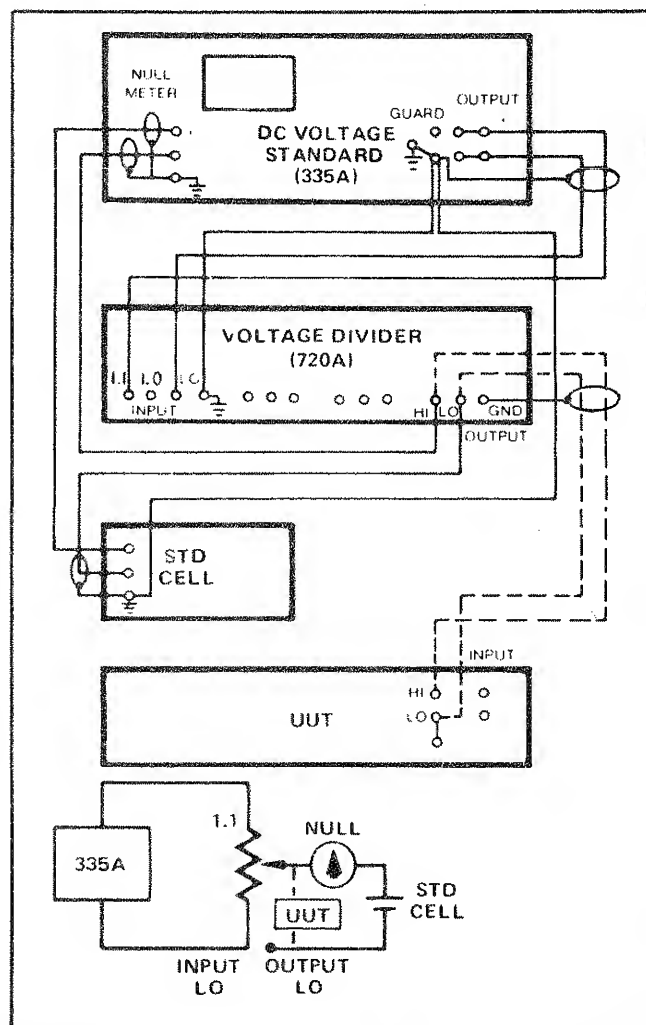

Figure 4-2. Connections for Low Range DC Voltage Tests
1. Connect the equipment shown with solid lines in Figure 4-2. Do not connect the UUT at this time.
2. Verify that test equipment used in Figure 4-2 is operating properly and that respective warmup periods have been observed.
6. At the Voltage Divider output terminals, disconnect the existing leads and connect the UUT as shown with the broken lines in Figure 4-2.